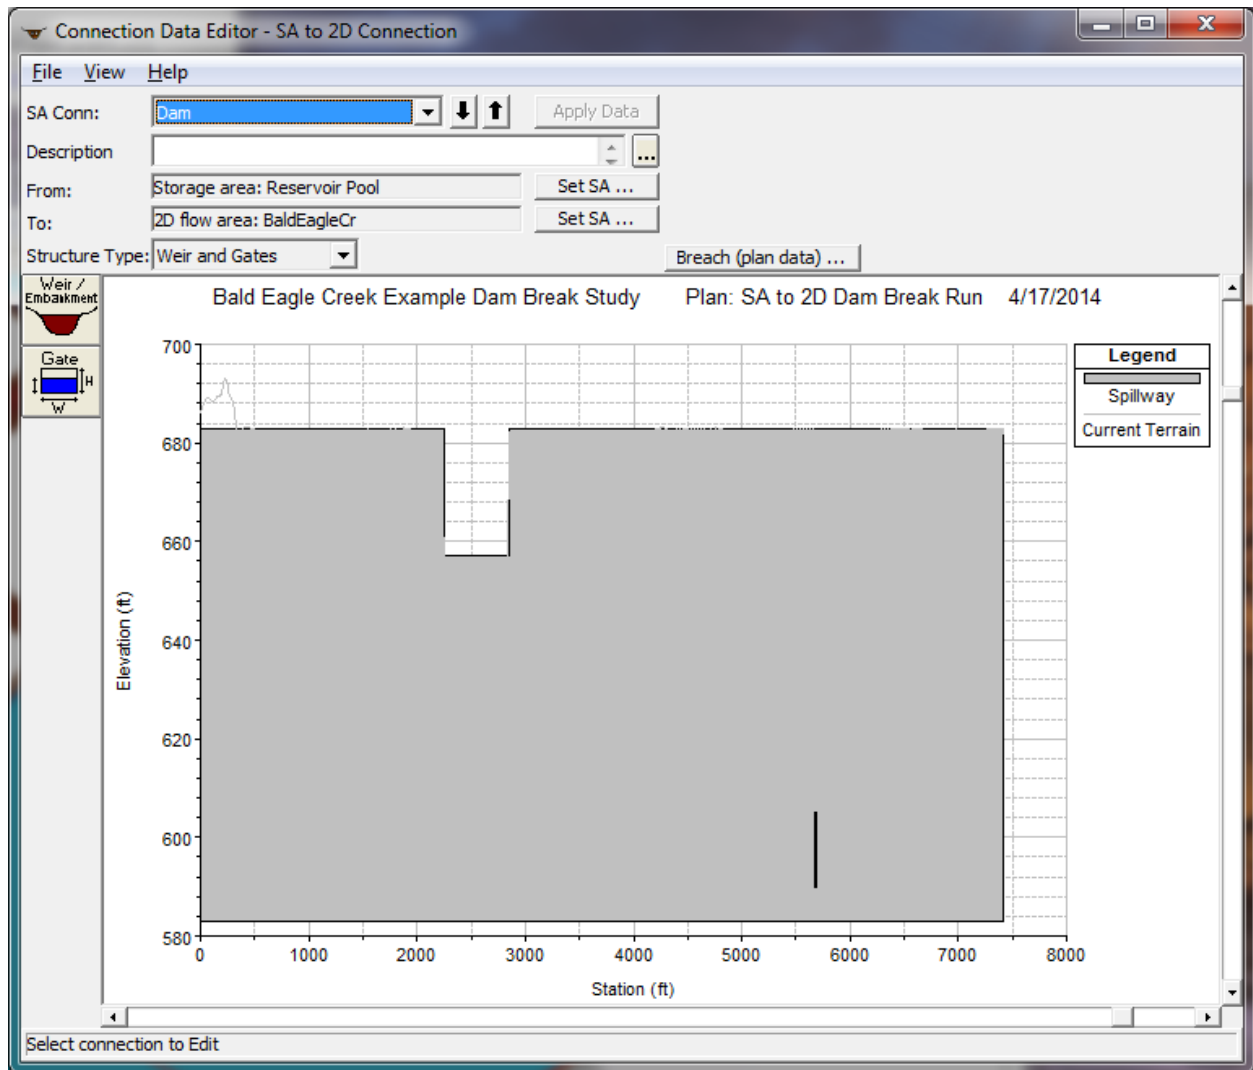

Figure 41. SA/2D Area Hydraulic Connection editor.
- Next, select the Storage Area/ 2D Flow Area Hydraulic Connection (SA/2D Area Conn) editor on the left panel of the Geometric data editor. This will bring up the editor shown in Figure 41.
- Enter all the hydraulic structure information for the connection. This will consist of a Weir/Embankment profile, and any additional hydraulic outlets, such as culverts, gates, etc... In the example shown in Figure 41, there is an embankment with an emergency spillway defined, and there are also low flow gates defined.